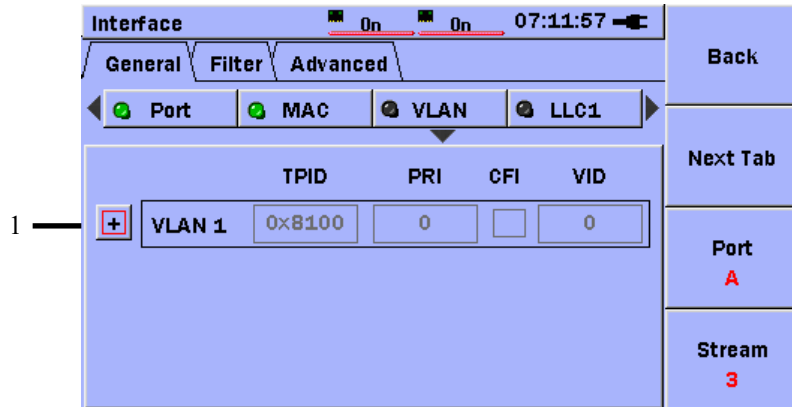

Figure 3.2.1-5 Interface Setup Screen, VLAN Setup Pane
- [1] The red frame in Figure 3.2.1-5 shows a [+] symbol which indicates that the fields are currently disabled (LED on the VLAN button is black).